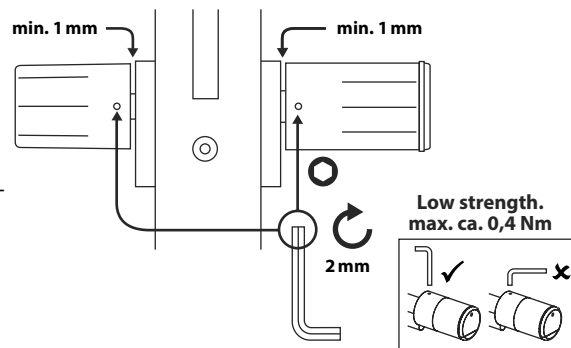

Fig. 6
- ⑥ Screw the grub screws back into the two knobs (Fig. 6).